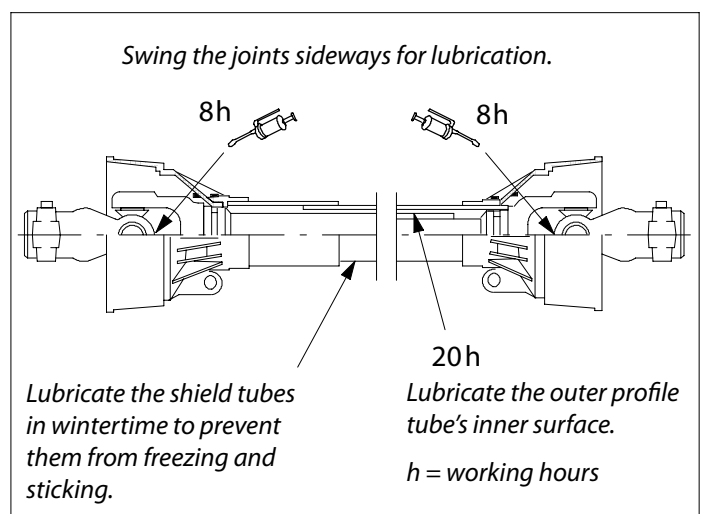

Fig 13. Lubrication points and intervals for the PTO shaft
- Lubricate the PTO shaft prior to operation and regularly, as shown in Fig. 13.